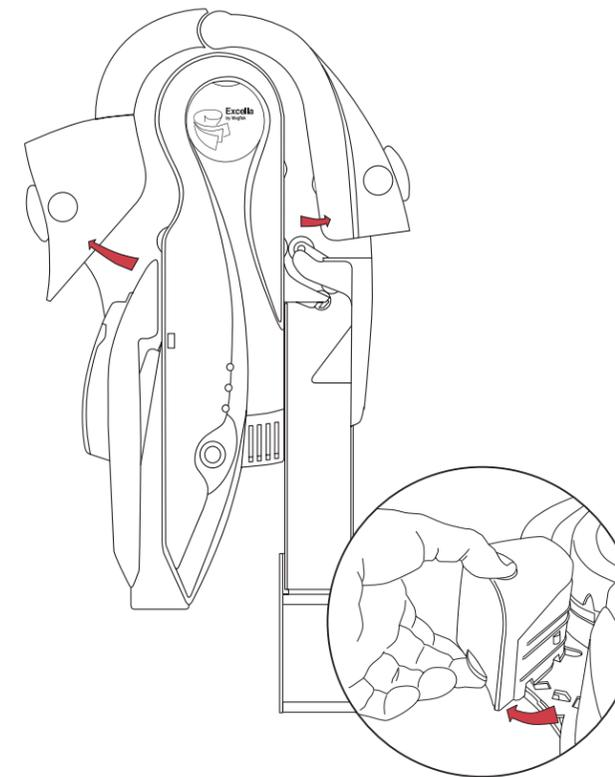

Figure 2. Opening the Left and Right Access Doors
The Left Access Door, the Right Access Door and the Printer/Cartridge Cover, shown in Figure 2, can be opened to provide access to the check path and both scan bars. Open the unit as described as follows:
1. Open the Left Access Door by placing the thumb on the Indent and the finger(s) on the Tab as shown in Figure 2 and squeezing, and then gently pull the Door open.